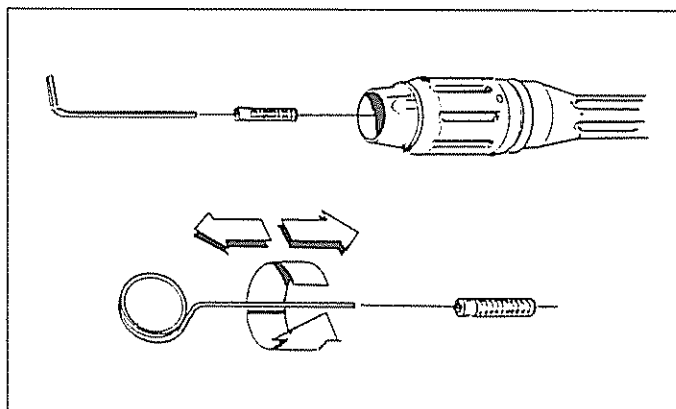

FIG. 14
- Use a piece of wire or small paper clip to free the foreign materials (Fig. 14) from clogging or restricting the nozzle.